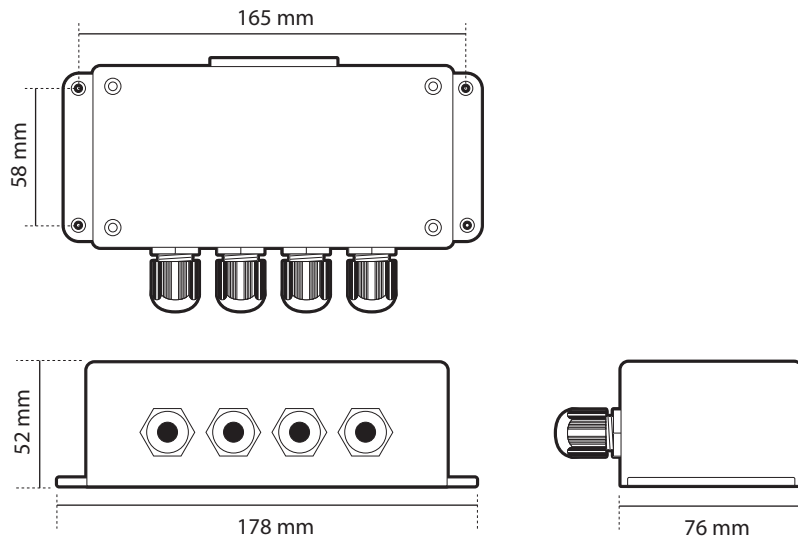

Figure 36 Junction box dimensions
- There should be adequate space around the junction box for routing of cables. See Figure 36 for details of the junction box dimensions.